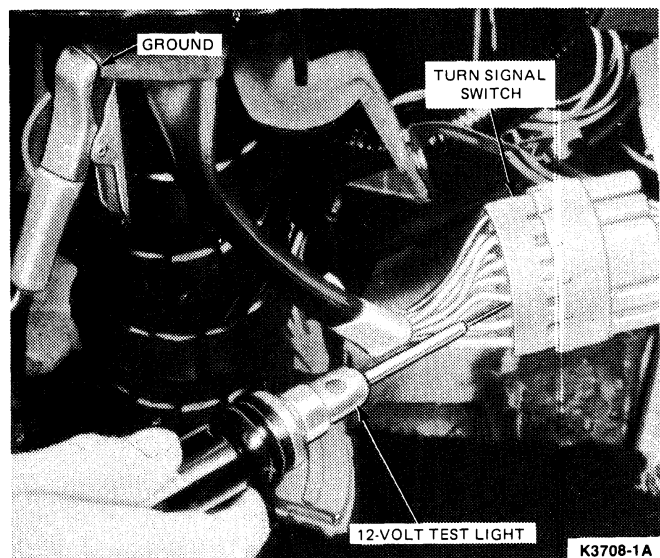

FIG. 8 Hazard Flasher Switch In Turn Signal Switch Assembly Power Test
1. Connect a 12-volt test light to a good ground (Fig. 8).
2. Contact probe of test light to the wire connection at the turn signal switch (white wire with red stripe—Circuit No. 385) as shown in Fig. 8.